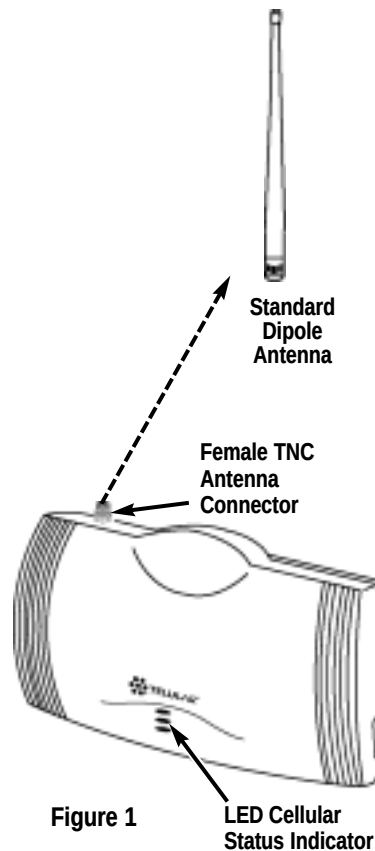

Figure 1
- 1) Connect the antenna to the TNC antenna connector on top of the FWT - *see Figure 1.*